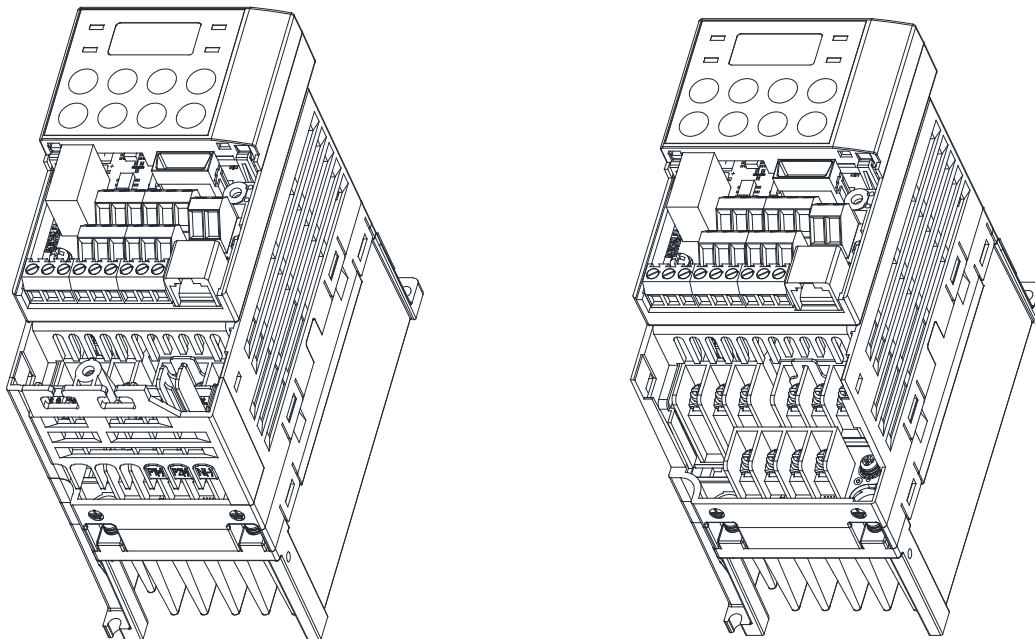

Figure 1. Remove I/O Cover and CABLE Guide
- ① Remove the I/O cover and cable guide of the product as shown in the Figure 1.